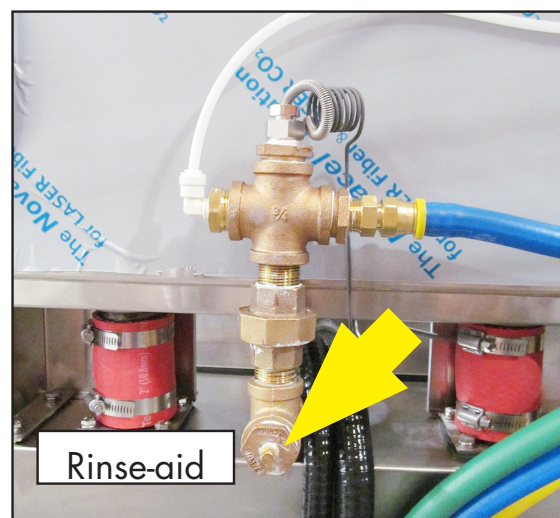

Fig. 12
2. The rinse-aid connection is 1/8" NPT fitting located at the rear of the machine (Fig. 12).